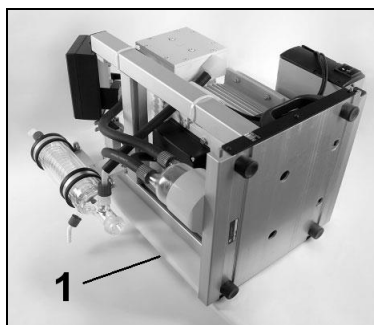

Fig. 26: Positioning of the vacuum system for service
1. Position the complete vacuum system in such a way that it lies on one of its faces with one pump head pointing upwards (see fig. 26). To do this:
After diaphragm and valve plates/sealings have been replaced	<ul style="list-style-type: none"> → Check that the spacers have been replaced onto the diaphragm screw thread. → Check head connection and hose connections. → Possibly carefully tighten the outer screws (fig. 24/4 or fig. 26/8) of the top plate crosswise.